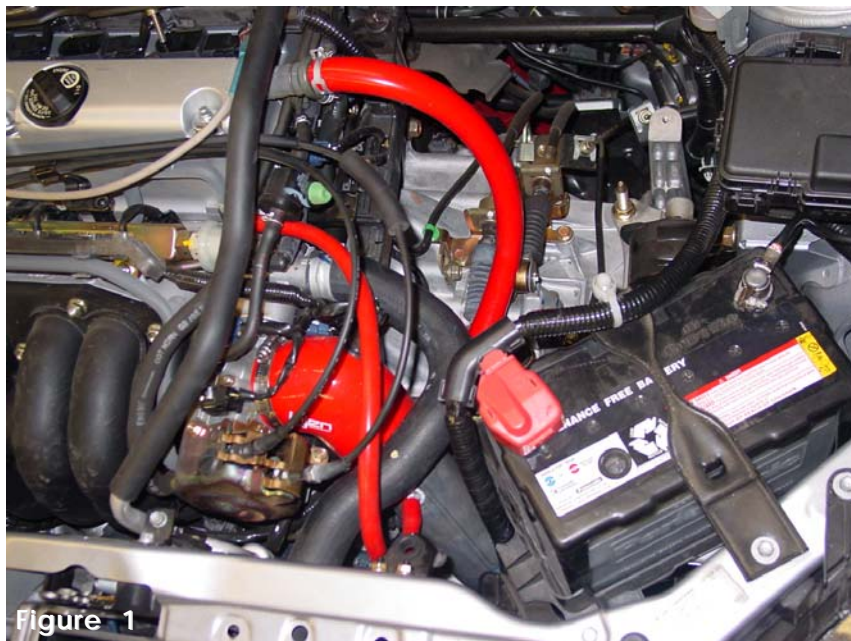

Figure 1
17. Carefully align the cold air intake and washer reservoir for best fit. Once proper clearance has been made throughout the length of the intake and the washer reservoir continue to tighten all nuts, bolts and clamps. (See figs. 1 and 18)
18. Replace the battery tray and battery. (See fig. 1)